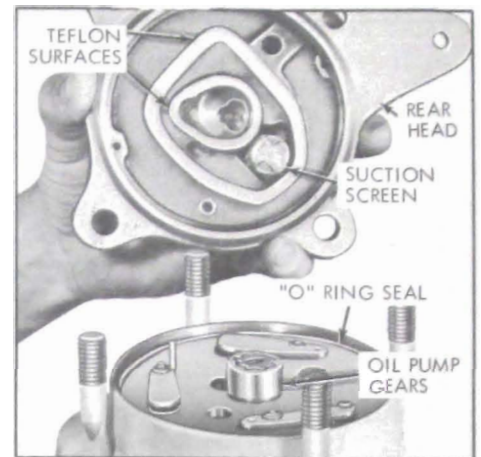

Figure 11-60—Rear Head Teflon Surface
12. Examine telfon surface on the rear head casting webs. If any damage is observed, the head should be replaced. See Figure 11-60.